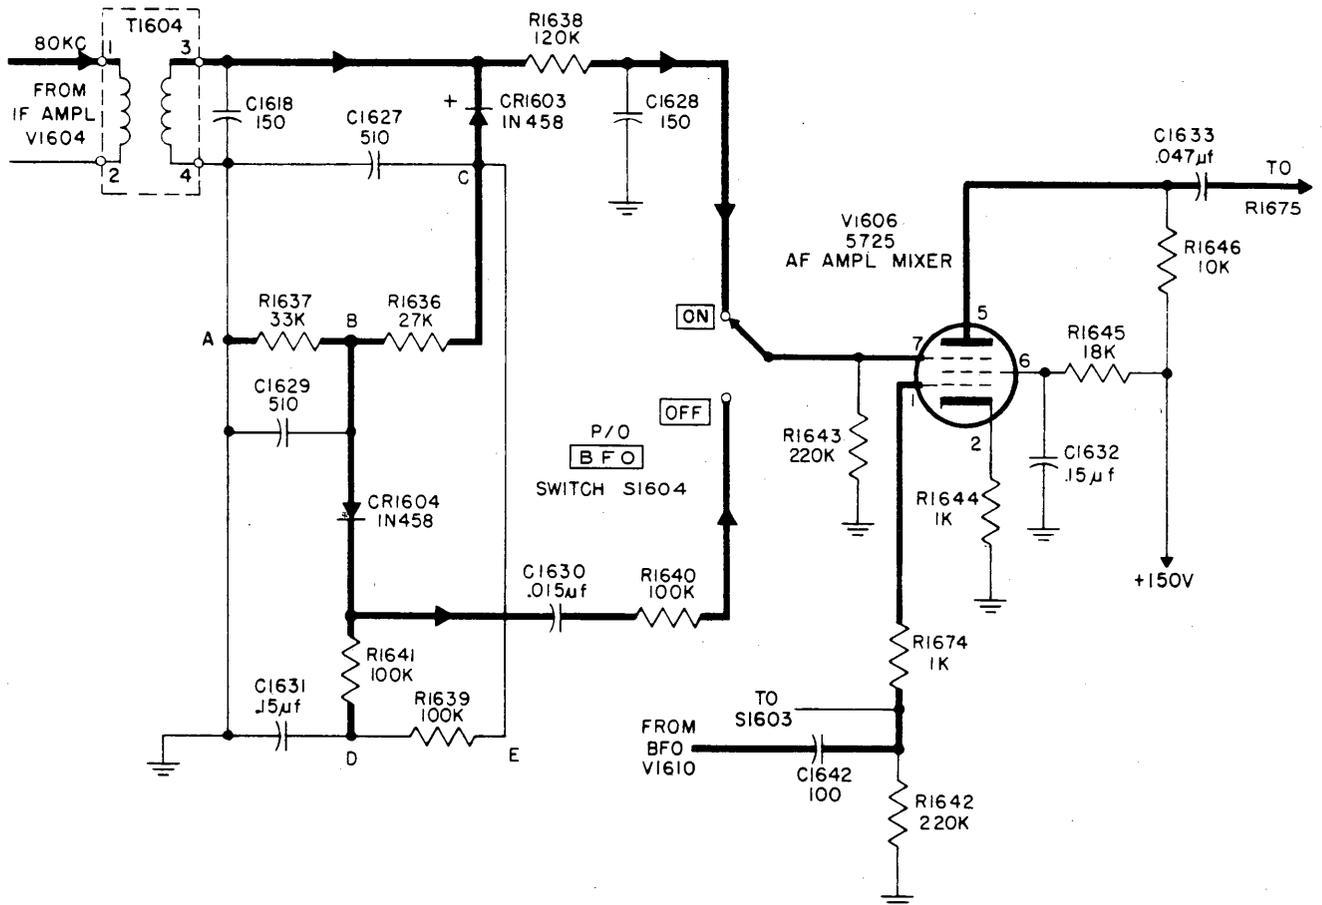

Figure 4-21. Detector CR1603 and Automatic Noise Limiter CR1604, Simplified Schematic Diagram
c. DETECTOR CR1603, AUTOMATIC NOISE LIMITER CR1604. (See figure 4-21.)—The 80 kc output developed at T1604 (plate load of IF amplifier V1604) is applied to CR1603, which is used in a conventional diode detector circuit. The output of the detector is developed across load resistors R1636 and R1637 and applied to the B.F.O. switch (S1604), on the upper demodulator panel, through a filter network consisting of R1638 and C1628. Also associated with the detector is a series-connected automatic noise limiter, CR1604, which limits voltage surges. The noise limiter becomes a functional part of the receiver only when the B.F.O. switch is in the OFF position.
d. AF AMPLIFIER V1606 (See figure 4-21.)—The input at pin 7 of AF amplifier V1606 is connected to either of two detector outputs, depending on whether the detector is used alone or in conjunction with the automatic noise limiter, as selected by the B.F.O. switch. A second input, applied at pin 1, is developed by BFO V1610 for all modes of receiver operation except modulated continuous wave (MCW) and amplitude modulation (AM), when V1606 operates as a conventional AF amplifier. The output of V1606 is developed across R1646 and is coupled through coupling capacitor C1633, to the audio filter circuit, which is composed of R1675, R1676, C1668, C1669, and C1670.